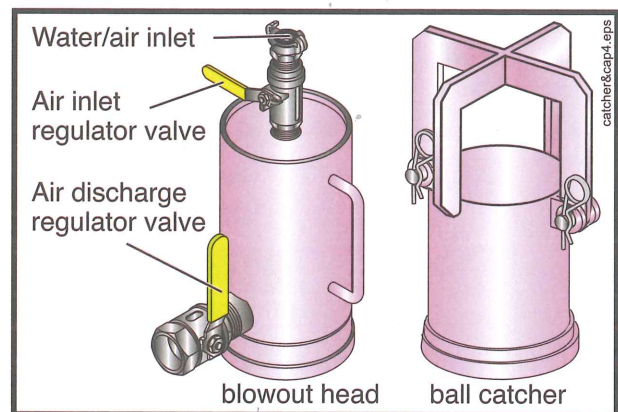

Figure 31
- **The pipe cleaning blowout head must be equipped with a properly sized air discharge regulator valve and a separate water/air inlet.** The two openings should be spaced apart far enough that a blowout ball could not cover both openings at once (Figure 31).